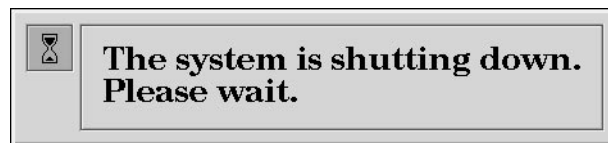

Figure 2-34 System Shutdown Notifier
After a few seconds, you see the notifier shown in Figure 2-34.
3. The notifier shown in Figure 2-34 appears on your screen within a few seconds. Then the system powers off automatically within the next minute.